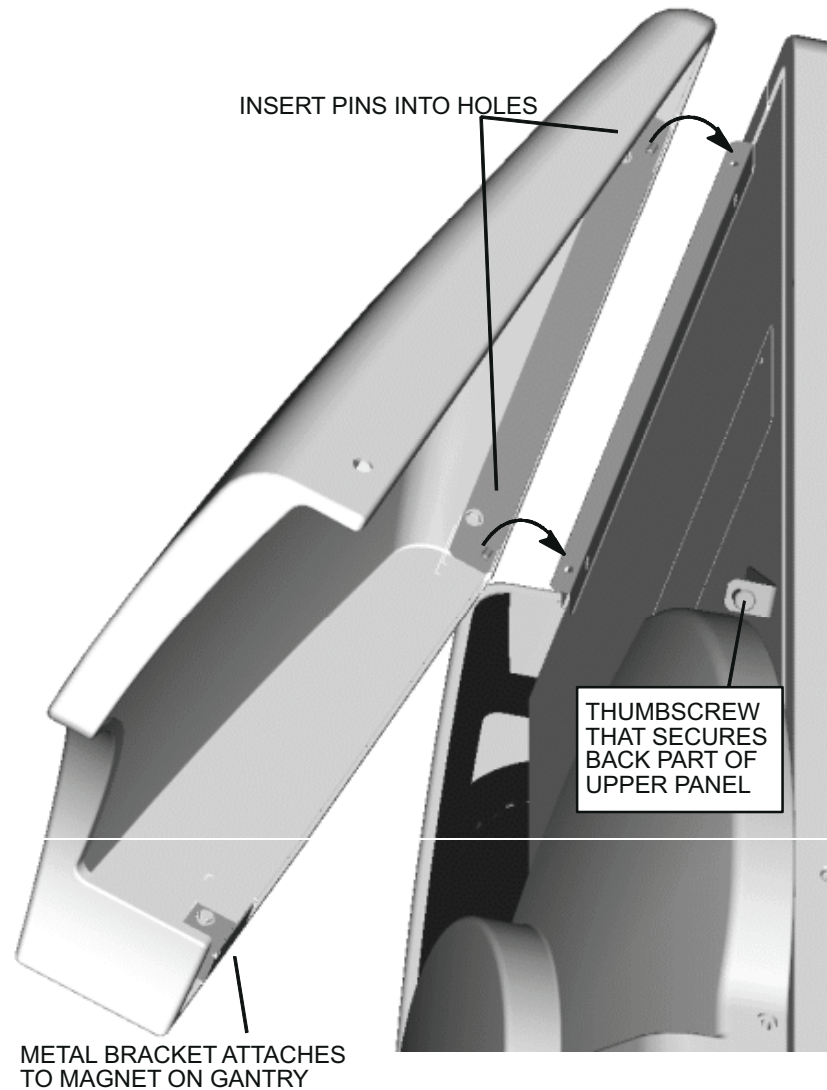

FIGURE 236 UPPER SIDE COVER
2. Align and insert the pins on the Upper Right Column Cover into the holes on the Cover Mounting Bracket which is attached to the Gantry Side Panel. Refer to Figure 236.